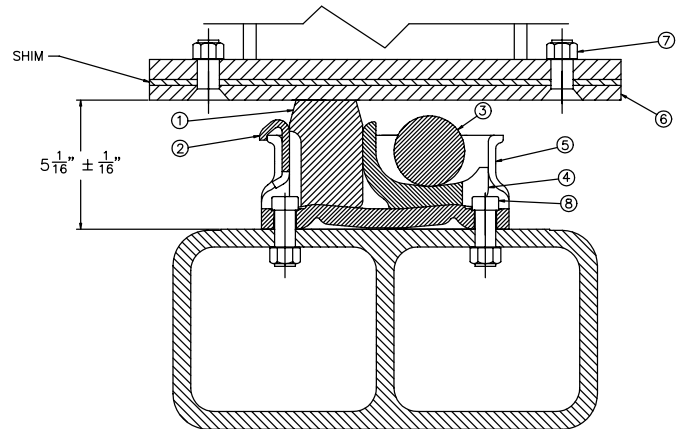

Figure 5. ISB-3 Side Bearing Arrangement
Body side bearing wear plates ⑥ (or wedge) must conform to AAR Standard S-235-83. Wear surface must be smooth. Any weld spatter heavy rust, or surface projections must be removed by grinding. Fastener heads ⑦ (see Figure 5) must be flush or recessed with the wear plate surface. Fasteners must be securely tightened.